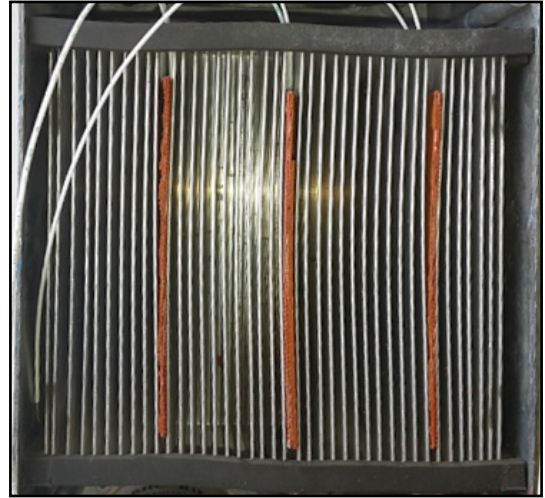

Figure 8 - Heater Pads Installed in VFD Fins.
- Evenly install three heater pads (PN 20960625) in fins of VFD and pull wires through the bottom of the fins (Figure 8).